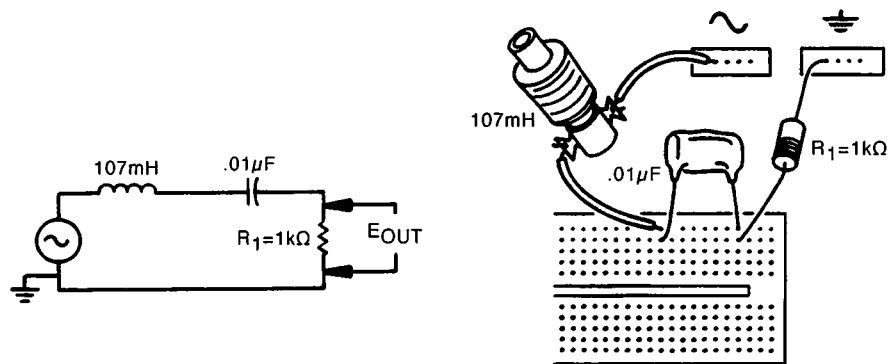
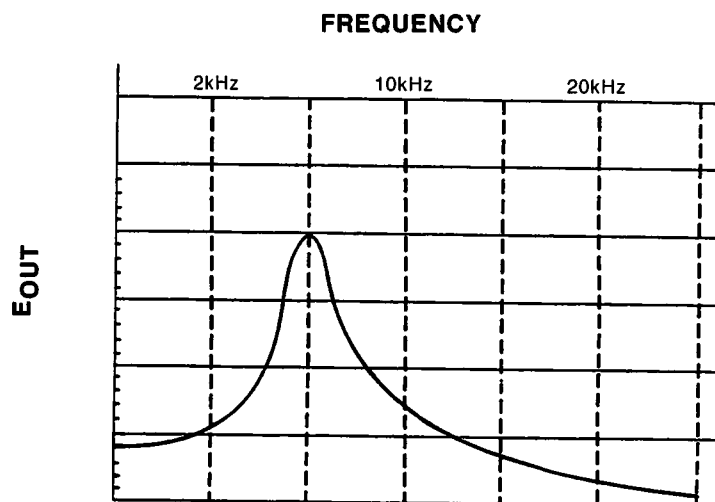

Figure 5-38
Figure 5-39
1. Construct the circuit shown in Figure 5-38.
3. Refer to Figure 5-39. This diagram shows a typical response curve for the circuit you built in step 1. The curve was constructed by measuring E_{out} at several frequencies.
shown in Figure 5-38.
7. Refer to Figure 5-39. Establish a scale for E_{out} , on the left-hand graph that ensures you can plot your maximum and minimum voltage values. Plot all of your voltage measurements, including those you measured in steps 4 and 5, on the graph.
8. Connect the points with a continuous line. Does your curve agree with the one originally shown in Figure 5-39? _____.
In step 1 you constructed the circuit shown in Figure 5-38. A typical response curve for this circuit was shown in Figure 5-39. In steps 4 through 8 you plotted your own response curve for the circuit. The general shape of your curve should agree with the typical curve. From the circuit arrangement and the response curve, it is obvious that this is a band-pass filter.